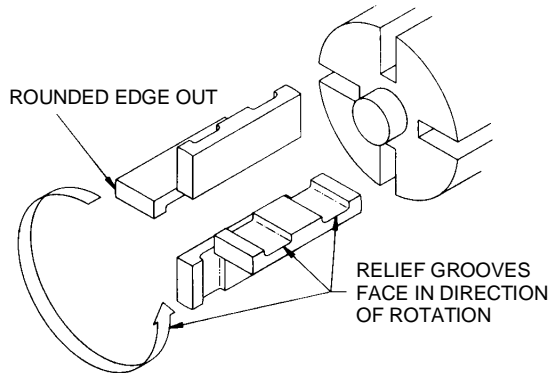
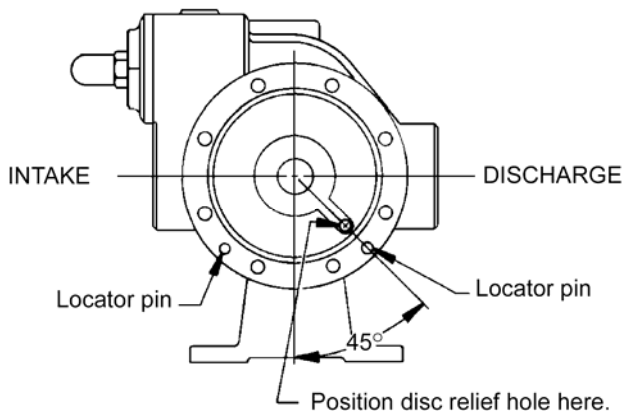

Figure 5 – Vane Replacement
Figure 6 - Disc Relief Hole Location
3. Turn the shaft by hand until a vane (14) comes to the top (12 o'clock) position of the rotor. Remove the vane.
4. Install a new vane (14), ensuring that the rounded edge is UP, and the relief grooves are facing towards the direction of rotation. See Figure 5.
1. Align the liner keyway with the setscrew (74) that extends down into the pump casing (12) and start the liner (41) into the casing. The word "INTAKE" cast on the liner must face the intake port of the pump casing. Uniformly tap the outer edge of the liner with a rubber mallet to fully insert into the casing.
2. Place the disc (71) against the liner (41) with the seal cavity outward and disc relief hole located as shown in Figure 6.
3. Without installing the head O-ring (72) or mechanical seal components, temporarily attach the outboard head (20) and bearing (24) to the casing (12). Install and hand-tighten two head capscrews (21), 180 degrees apart. This head will be used to hold and align the rotor and shaft (13) while the inboard side of the pump is assembled. **NOTE: It is a good practice to attach pump heads to the same ends they were removed from.**
4. Before installing the rotor & shaft assembly (13), the direction of pump rotation must be determined as follows: If the pump is to be **right-hand** with **clockwise** rotation, the intake port and the relief valve must be on the **right** with the drive end of the shaft pointing towards the observer. If the pump is to be **left-hand** with **counterclockwise** rotation, the intake port and the relief valve must be on the **left** with the drive end of the shaft pointing towards the observer.
5. Remove the vanes (14) and push rods (77) from the rotor and shaft assembly (13). Inspect for wear and damage, and replace as follows:
- a. Insert the vanes (14) into the bottom rotor slots with the relief grooves facing in the direction of pump rotation, and with the rounded edges outward. See Figure 5.
- b. If the pump is equipped with the four-vane rotor and shaft (13A), hold the two bottom vanes (14) in place while inserting the two push rods (77).
- c. After the bottom vanes (14) (and push rods, (77) if equipped) are installed, carefully insert the non-driven end of rotor and shaft into the casing (12).
- d. Install all remaining vanes (14) into the top positions of the rotor.
6. Install the disc (71) on the inboard side of the pump with the seal cavity facing outward and the disc relief hole located as shown in Figure 6.
7. Install a new head O-ring (72) in the groove between the disc (71) and the casing(12).
- d. Apply a small amount of motor oil in the seal recess of the head (20).
9. Carefully install the inboard head assembly (20) over the shaft. Do not contact the end of the shaft with the polished face of the stationary seat. Center the head on the pump casing (12). Install and uniformly tighten four head capscrews (21) 90° apart; torque to 15 lbs ft (20.3 Nm). **NOTE: It is a good practice to attach pump heads to the same ends they were removed from.**